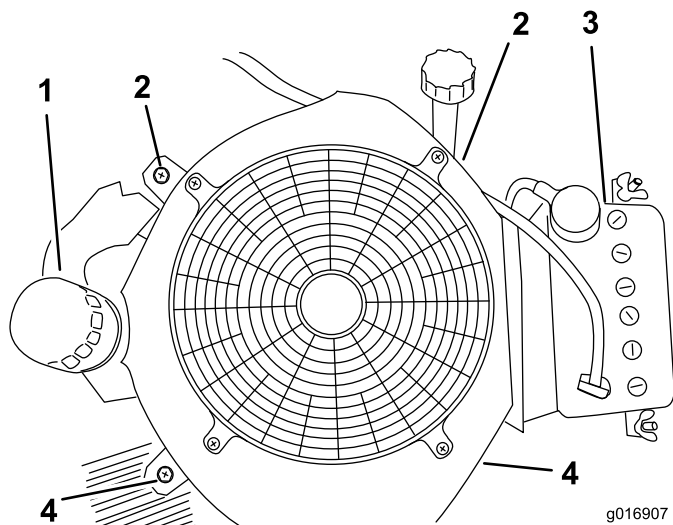

Figure 74
6. Remove the two screws on the left and right hand sides in the cooling fan housing as shown in Figure 74.